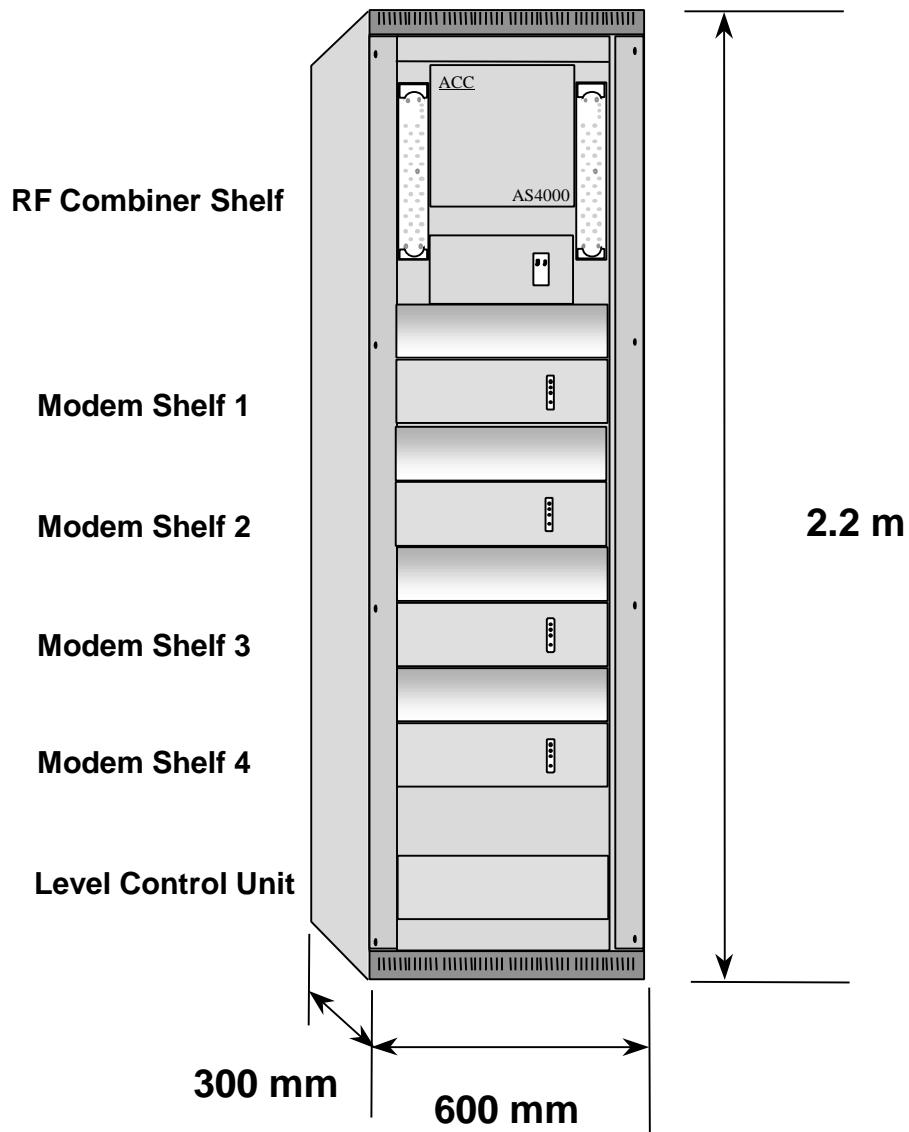

Figure 16. AS4000 CT Equipment Rack
The 2.2m high ETSI style AS4000 CT equipment rack is a rack which contains multiple shelf assemblies. These house the equipment necessary to support from one to 60 customer radio links and from one to four 2 Mbit/s CAS or DASS2 links to the Local Exchange (LE). (see Figure 16).